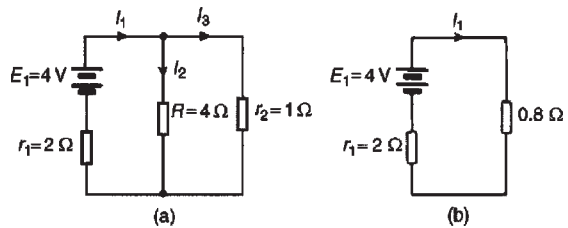
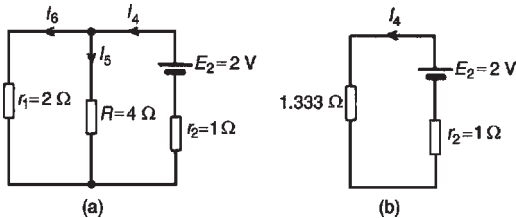
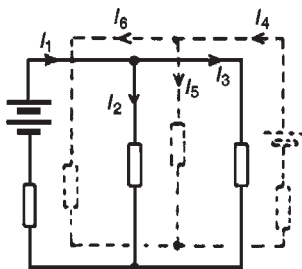

Figure 15.17
Figure 15.18
Figure 15.19
1. Redraw the original circuit with source E_2 removed, being replaced by r_2 only, as shown in Fig. 15.17(a)
2. Label the currents in each branch and their directions as shown in Fig. 15.17(a) and determine their values. (Note that the choice of current directions depends on the battery polarity, which, by convention is taken as flowing from the positive battery terminal as shown.)
From the equivalent circuit of Fig. 15.17(b),
From Fig. 15.17(a),
- Redraw the original circuit with source E_1 removed, being replaced by r_1 only, as shown in Fig. 15.18(a)
- Label the currents in each branch and their directions as shown in Fig. 15.18(a) and determine their values.
From the equivalent circuit of Fig. 15.18(b)
From Fig. 15.18(a),
- Superimpose Fig. 15.18(a) on to Fig. 15.17(a) as shown in Fig. 15.19